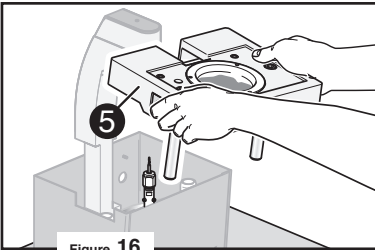

Figure 16
Fig. 16: Remove the rubber support top (9). Remove the mobile support top (5) by sliding it upwards, taking care not to break the bit. Empty the dust/swarf tray. After emptying the tray reposition the mobile support top (5), making sure that the two lower pins are housed in their guides.